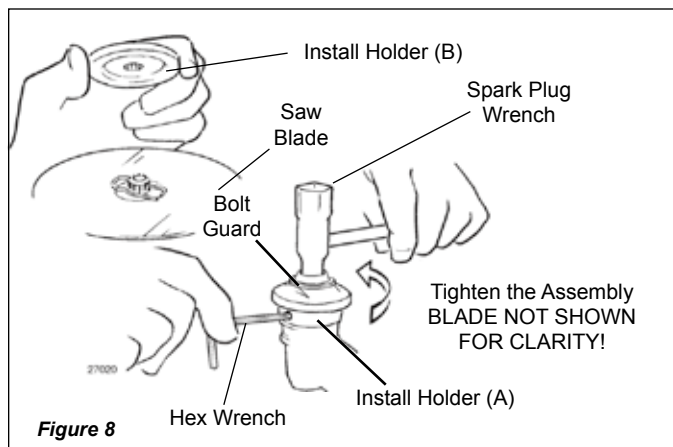

Figure 8
9. Lock the blade in place by centering the safety clip on the output shaft. See Figure 8.
10. Install blade Holder (B) on the output shaft. See Figure 8. The recess in the holder must completely cover the safety clip, and must fit tightly against the blade.
11. Align the hole in blade Holder (A) with the notch in the gearcase flange, and then lock the output shaft by inserting a hex wrench through both holes.